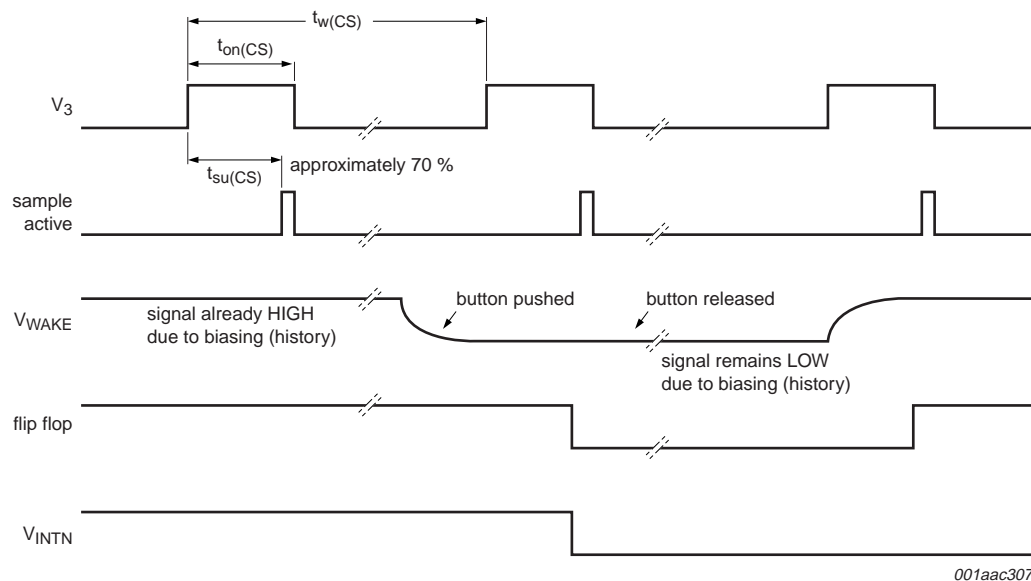

Fig 13. Pin WAKE, cyclic sampling via V3
- Sampling synchronized to the cyclic behavior of V3 if the bit is cleared; see Figure 13. This is to save bias current within the external switches in low-power operation. Two repetition times are possible, 16 ms and 32 ms.